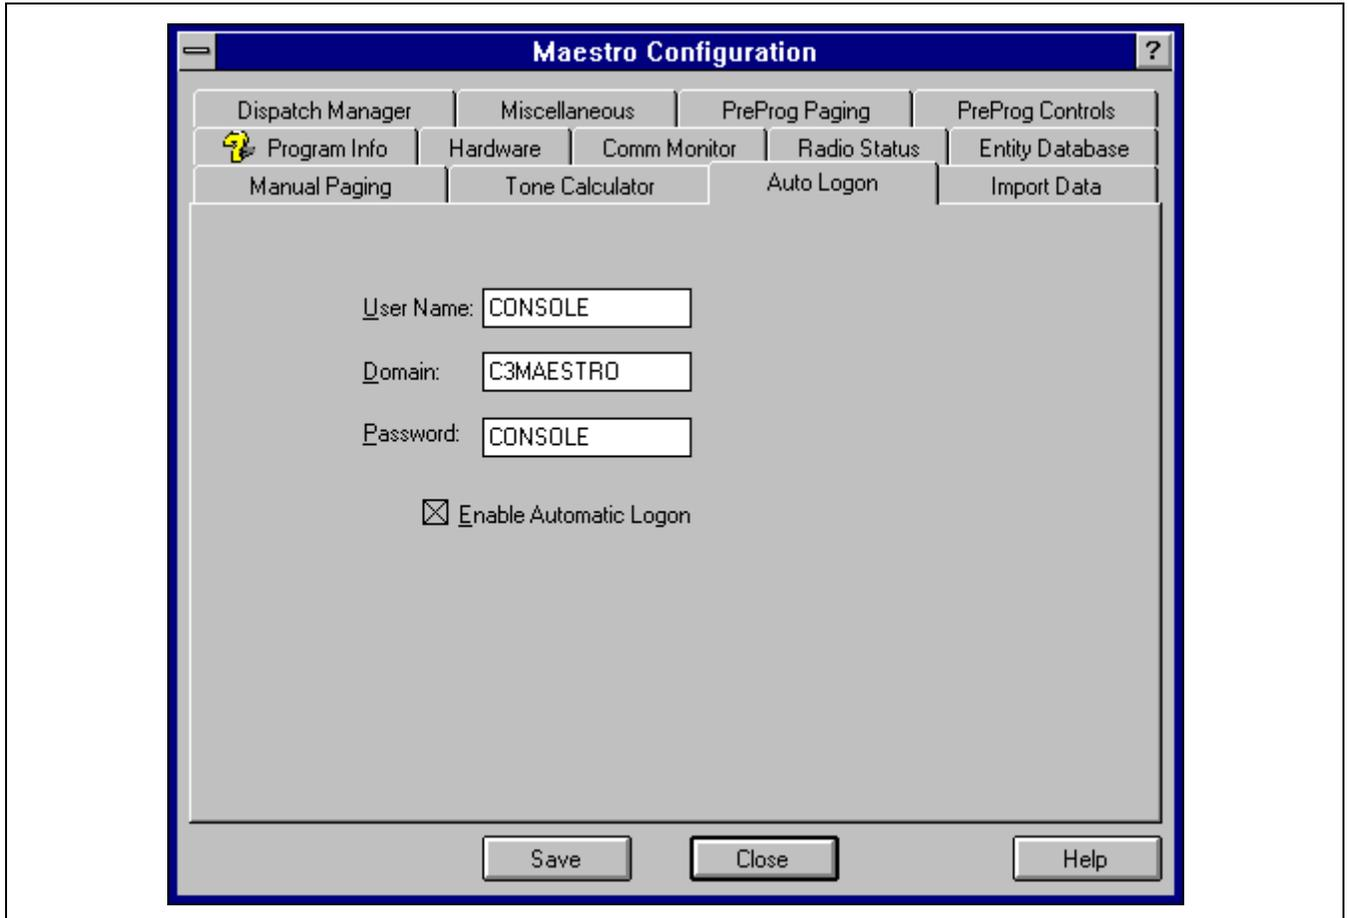

Figure 6-9 — Configuration Editor's Auto Logon Dialog Box
- **Auto Logon**—For automatic Windows NT log-on at console/computer start-up, this dialog box allows the user set-up log-on parameters required during an automatic Windows NT log-on sequence, and to enable/disable automatic log-on. Configurable log-on parameters include the user’s name, the domain name and the user’s password. See Figure 6-9.
In the **Password** text box, enter the log-on user's password required during the automatic Windows NT log-on sequence (see Figure 6-9). Assuming automatic log-on is enabled, this password will be the password utilized to automatically log-on the user. The entered/saved password must be the user's valid password at log-on time; if not, the automatic log-on sequence will not be successful and Windows NT will revert back to manual log-on.
To enable automatic Windows NT log-on, check the **Enable Automatic Logon** check box (see Figure 6-9). When enabled, subsequent log-on sequences will occur automatically per the entered/saved user name, password and domain name.